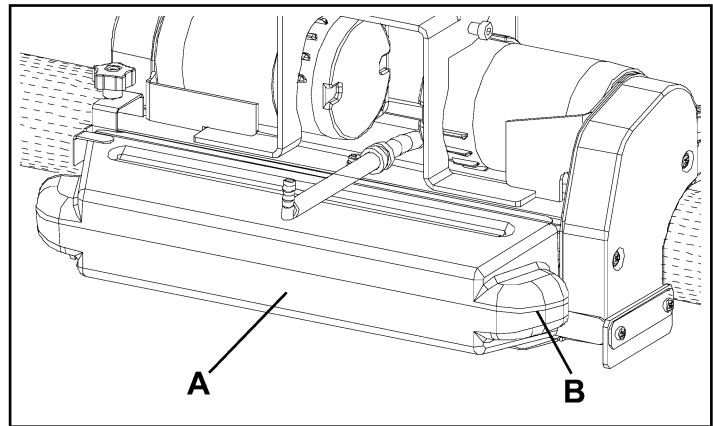

Figure 29
4. Lower the cylindrical brush-holder deck and remove the debris container (A, Fig. 29) by pulling it on one side with the handle (B).
- Empty and wash the debris container (A), and then install it by engaging it on the inner fasteners.